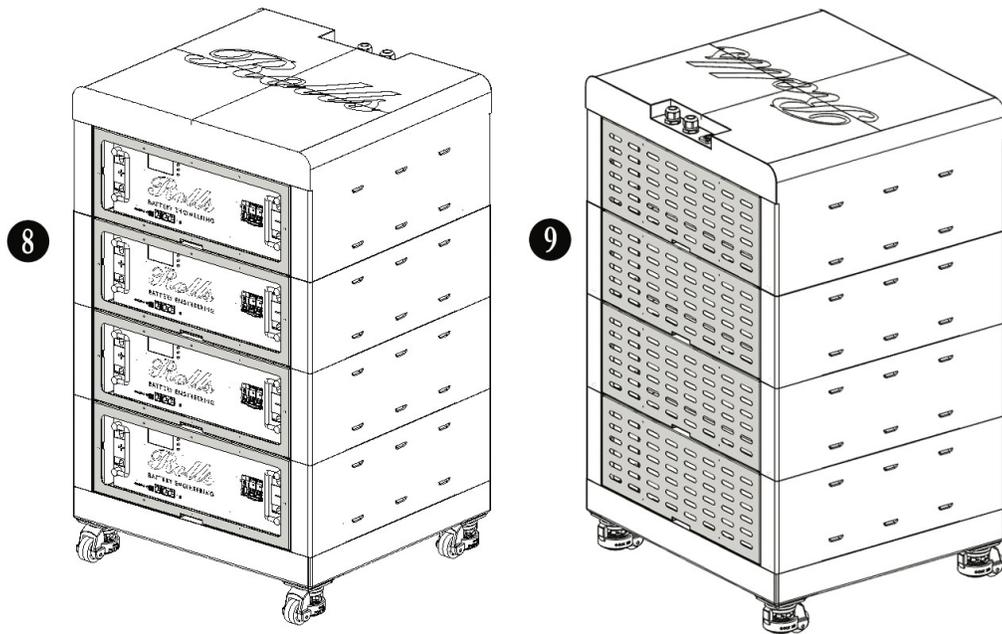

Figure 6.0
- 1.10 Last, the four front panels **8** and four rear panels **9** attach to the cabinet assembly with the integrated magnets as shown in Figure 6.0. These panels provide protection and are easily removed to allow access to the front or rear of each battery.